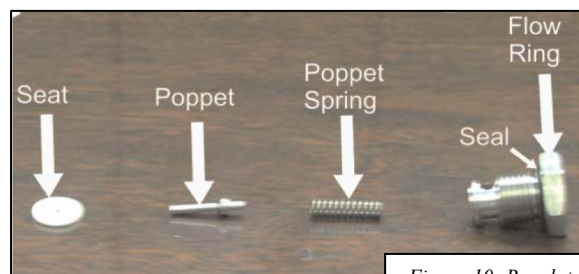

Figure 10- Regulator Spring Assembly
14. Replace the seal around the flow ring (see Figure 10).
15. Remove the poppet spring and the poppet (see Figure 10).